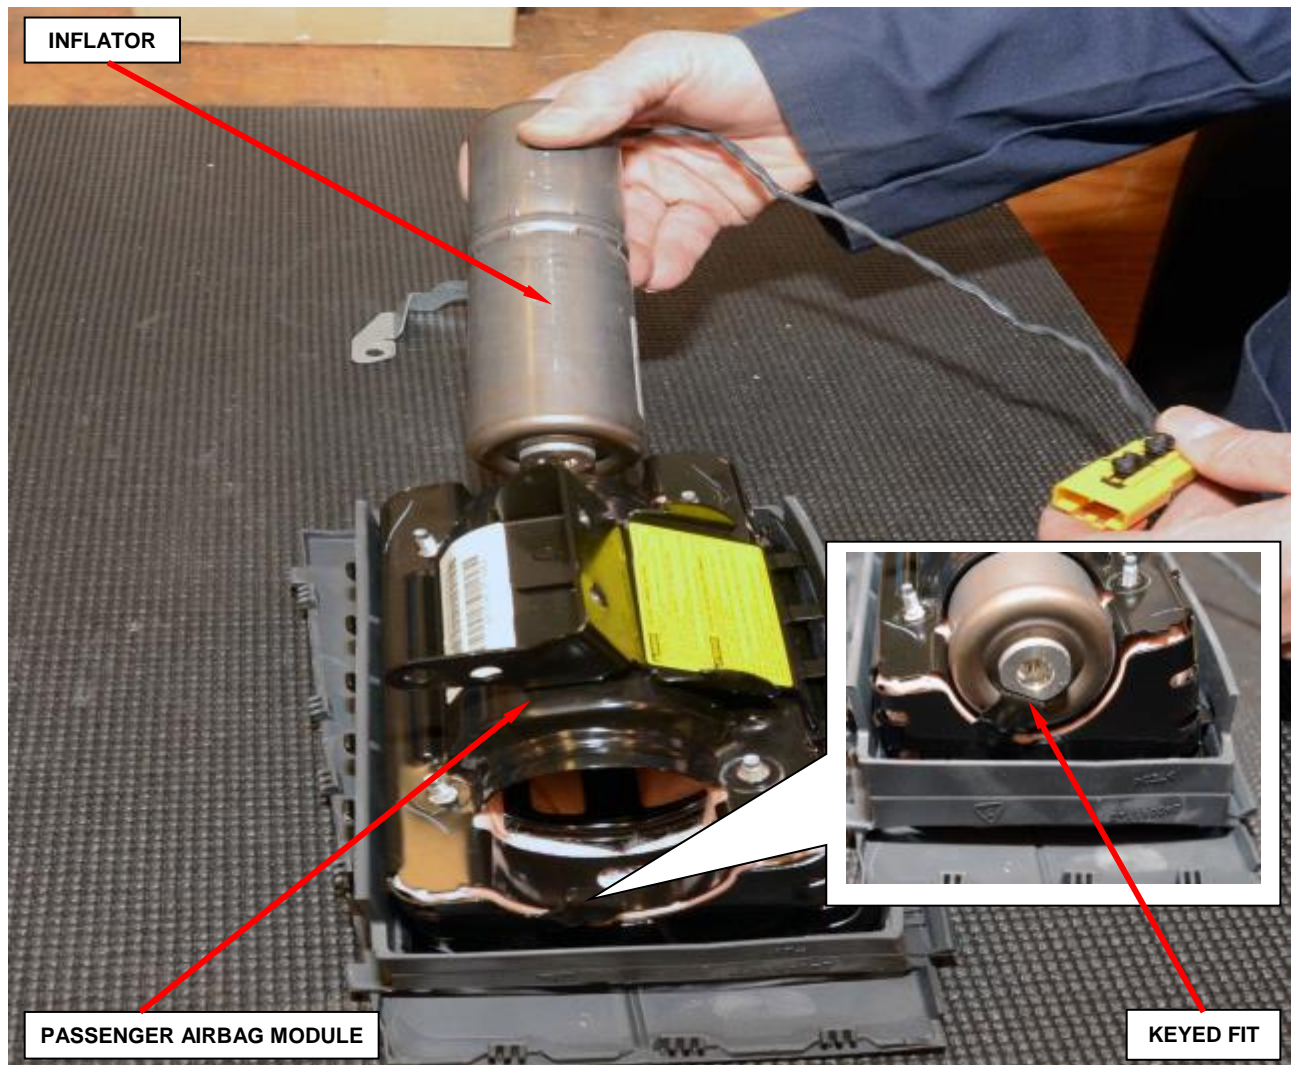

Figure 99 – Passenger Inflator Installation
g. Slide the **new** inflator into the passenger airbag module (Figure 99).
NOTE: The inflator is keyed to fit into the housing (Figure 99).